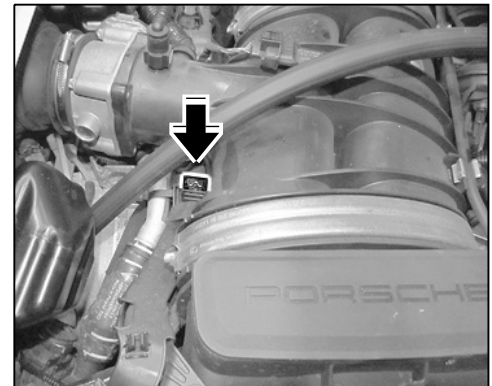

Figure 28
- 6.1 Expose wire harness for change-over valve ⇒ *Figure 28 -arrow-*.